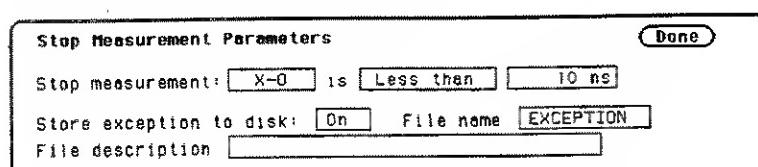

Figure 16-5. Markers Patterns Pop-Up Menu
**Stop Measurement.** Another feature of markers set to patterns is Stop Measurement. You can specify either stop measurement when X-O is \_\_\_\_\_ or Compare is \_\_\_\_\_. The options for X-O are: Less than, Greater than, In range, Not in range. The options for Compare are: Equal and Not Equal (see figure 16-5).